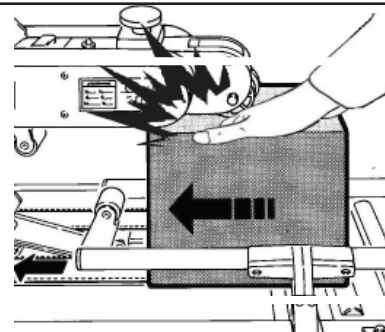

Figure 3-7
**IMPORTANT!** Side flap compression rollers. Never keep hands on the box while it is driven by the belts (**Figure 3-7**).